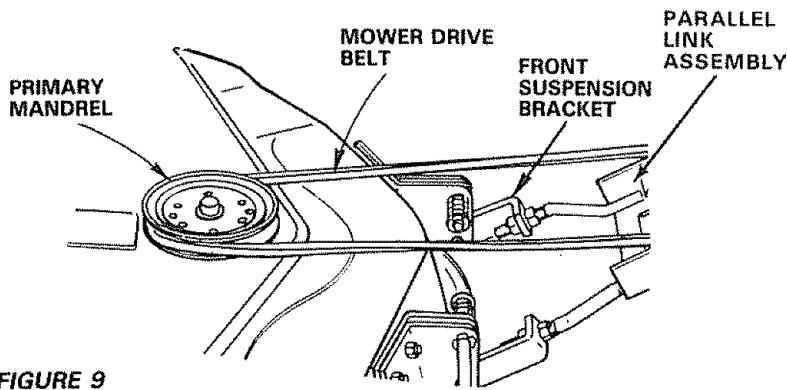

FIGURE 9
- Roll drive belt over primary mandrel (Fig. 9)
**BEFORE DRIVING THE TRACTOR, INSTALL MOWER OR REMOTE FRONT PARALLEL LINK ASSEMBLY AND RAISE MOWER SUSPENSION ARMS TO HIGHEST POSITION (Fig. 9).**